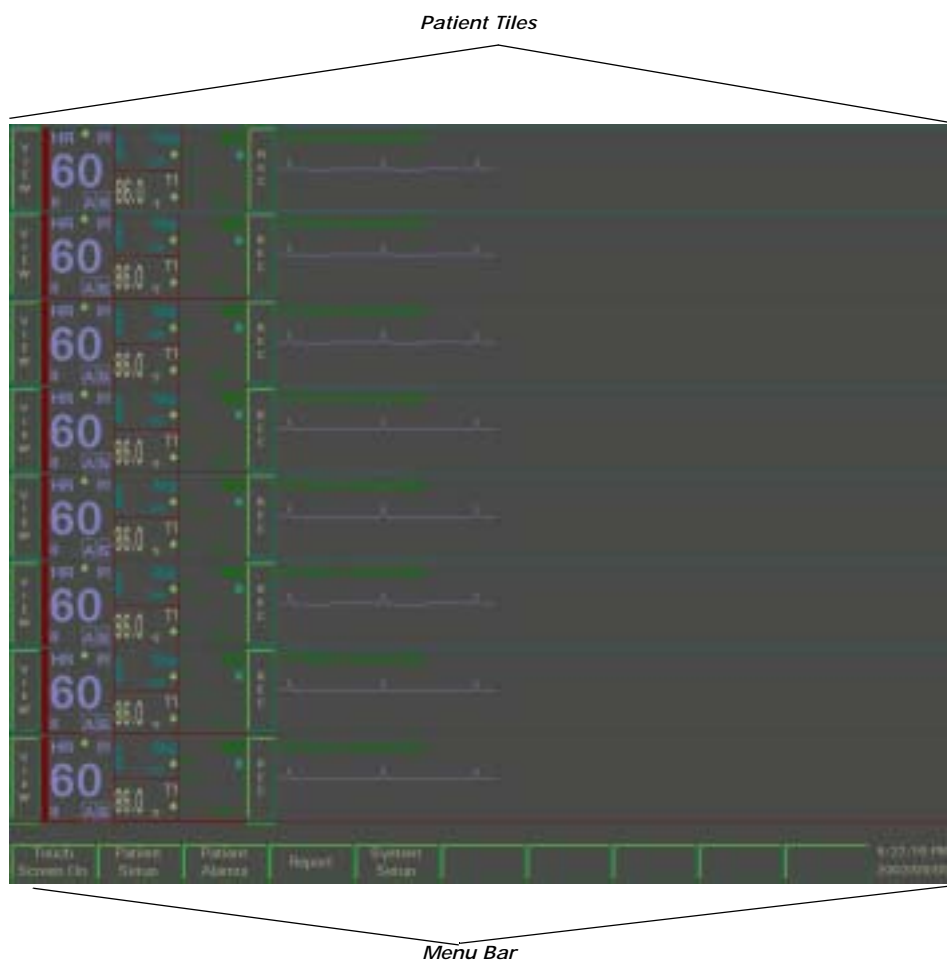
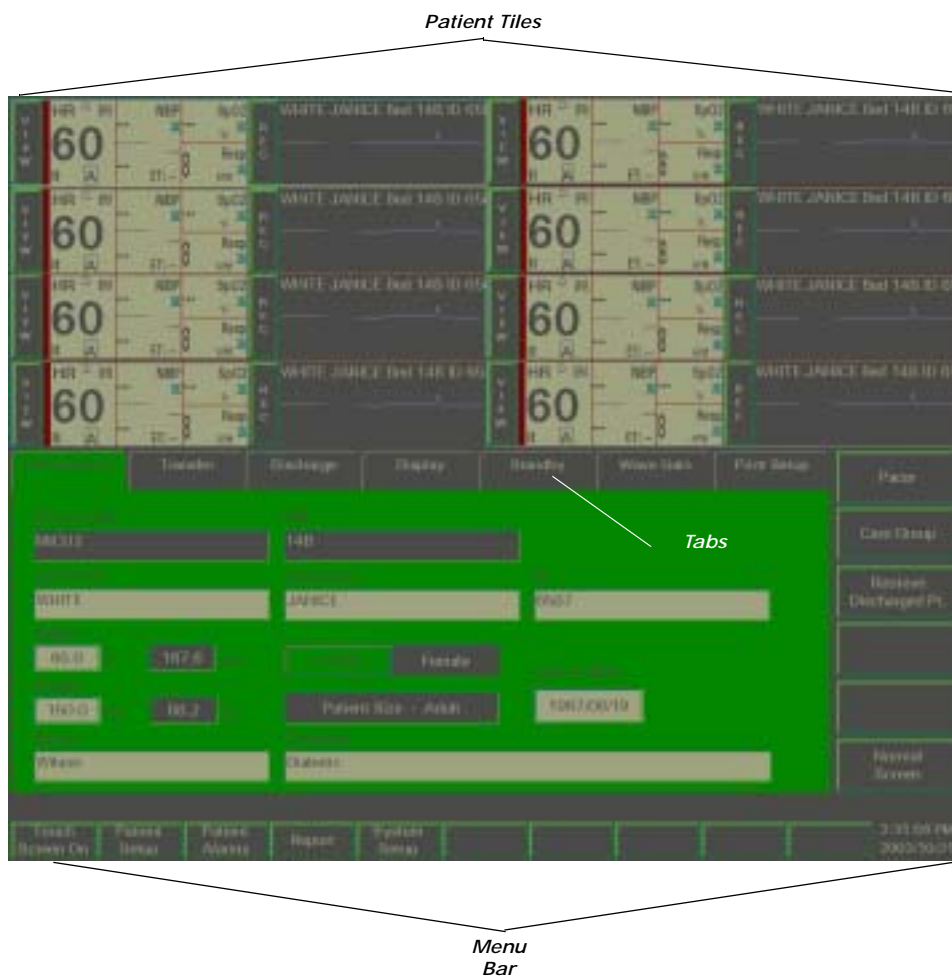

FIGURE 2-1 Full Screen Display
FIGURE 2-2 Split-Screen Display
The full screen display (FIGURE 2-1) includes patient tiles for viewing patient data and a menu bar for navigating the system.
The Panorama system uses a split-screen display (FIGURE 2-2) to allow users to simultaneously enter patient information, and monitor patient data. The top half of the screen displays patient data, while the bottom half of the screen is converted to a work space for entering and modifying patient information.
- Patient Tiles (FIGURE 2-1/FIGURE 2-2)
- Menu Bar (FIGURE 2-1/FIGURE 2-2)
- Tabs (FIGURE 2-2)